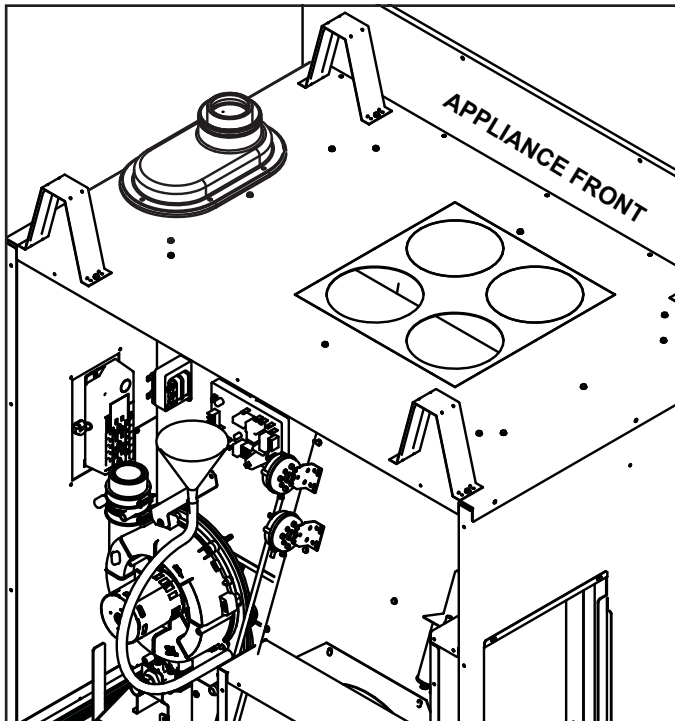

Figure 4.3. Upper Inducer Housing Tube Connected to Field-Supplied Funnel
5. Insert 3/8 inch (ID) field-supplied funnel into tube. See Figure 4.3.